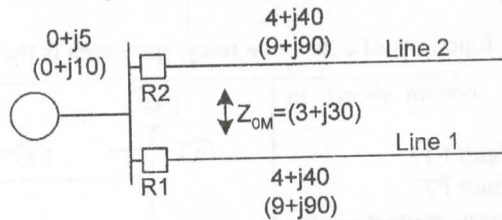

Fig. 5 Fault on a mutually coupled transmission line
**Problem number (3)**
- b) For the system shown in Fig. 5, a simultaneous fault occurs on phase b to ground on line 1, and phase c to ground on line 2. The fault is at the midpoint of the lines. You may assume that there is no source connected to the far end of the lines. What is the impedance seen by the phase (b-c) distance relays of the two lines?